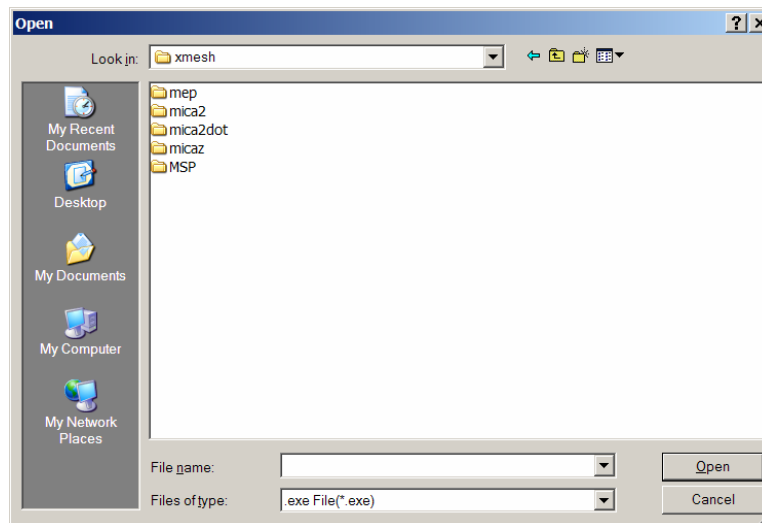

Figure 5-6. Screenshot for selecting XMesh applications.
- Right click on the **Select...** button on the top right which will open up a directory window (see Figure 5-6). Or navigate to another directory which has the pre-compiled Mote application you wish to install. Select the specific `.exe` file of the application you want to download into the Mote.